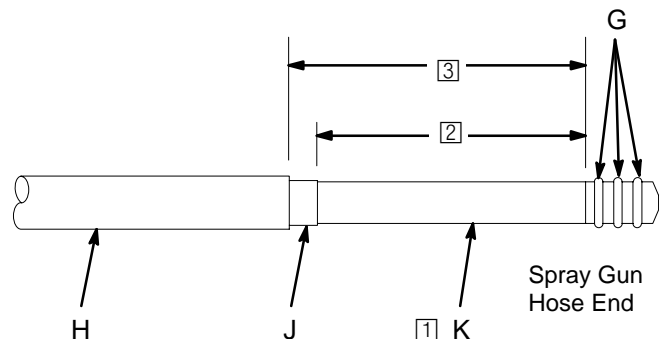

Fig. 4
1. For the fluid hose to seal properly and be held securely, the hose must be stripped and assembled to the dimensions shown in Fig. 4. Refer also to Fig. 29, page 42. A new Graco waterborne fluid hose comes fully assembled to the proper dimensions.
4. Apply a light coat of dielectric grease (supplied with the gun) to the o-rings (G) and to the entire length of the inner hose layer (K). See Fig. 4.
KEY- Fig. 4